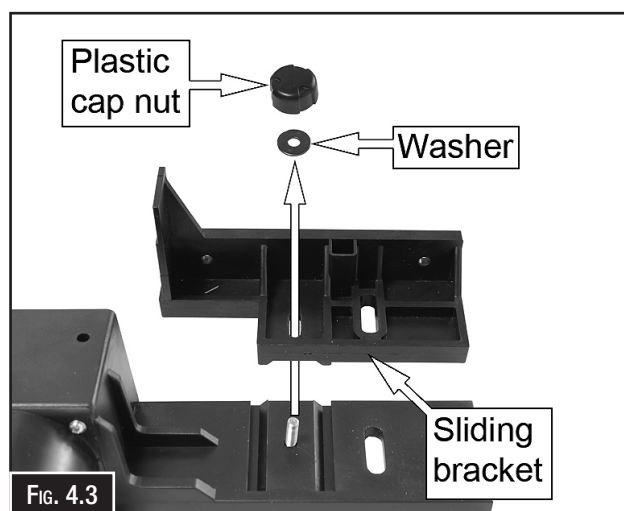

FIG. 4.3
3. Secure in place using the washer and plastic cap nut. (Fig. 4.3)